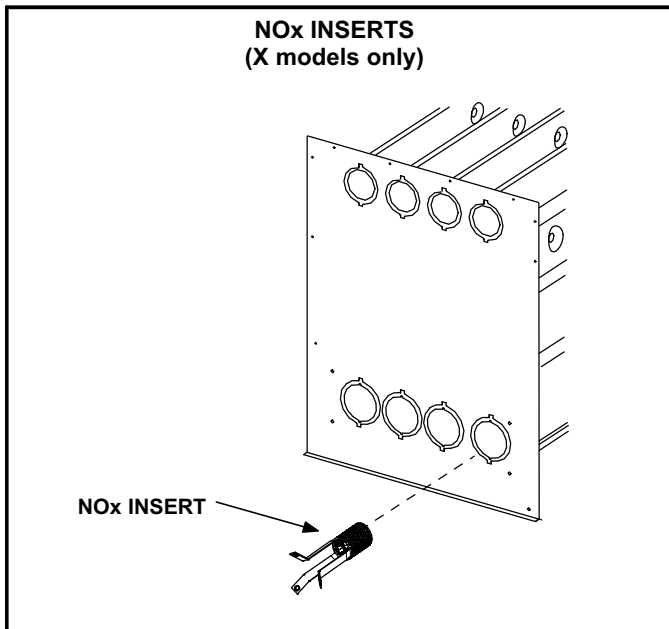

FIGURE 29
- 7 - **NOx units only** - Remove the three screws that attach the NOx insert to the corbel at the entrance to each heat exchanger section. Carefully remove the NOx insert from each section. See figure 29.
- 15- **NOx units only** - Reattach the NOx inserts to the corbels at the entrance to each heat exchanger opening. See figure 29.